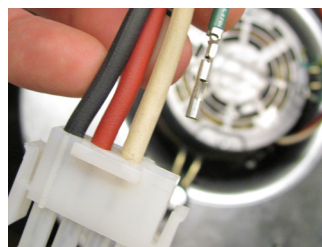

Fig. 4a - Ground Wire Extension
**4.** Insert ground wire extension into 4-prong motor plug. (Figs. 4a, 4b)